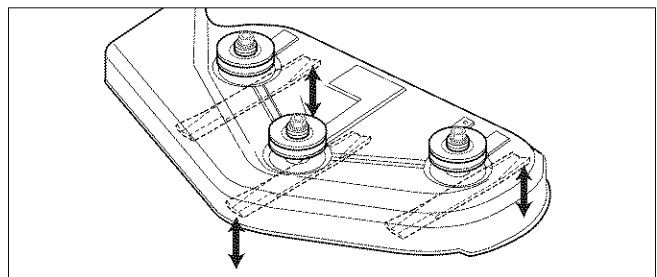

Figure 34. Orient Blades Front-to-Back
6. Arrange the blades so they face front-to-back (Figure 34).